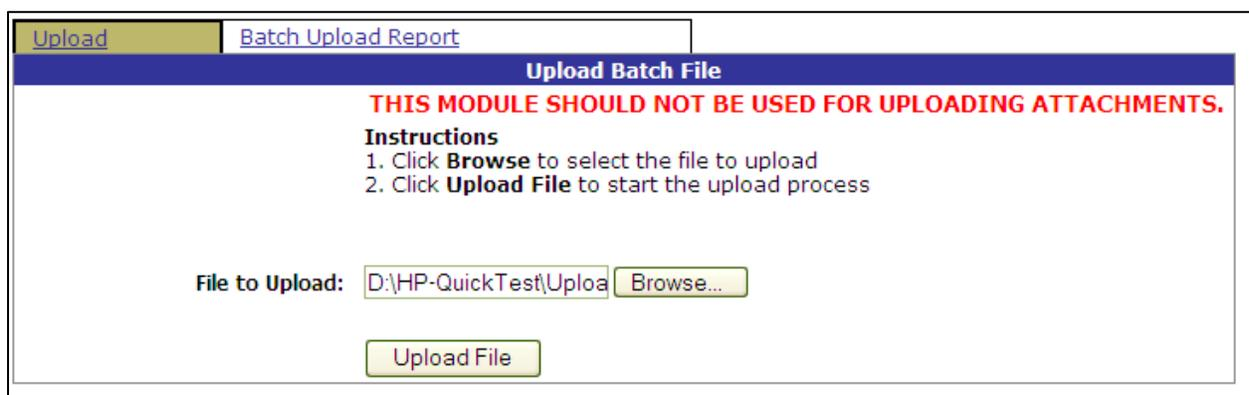

Figure 1.4
- d. Browse to and highlight the file to upload. Click the **Open** button. The file path displays in the File to Upload field (Figure 1.4).